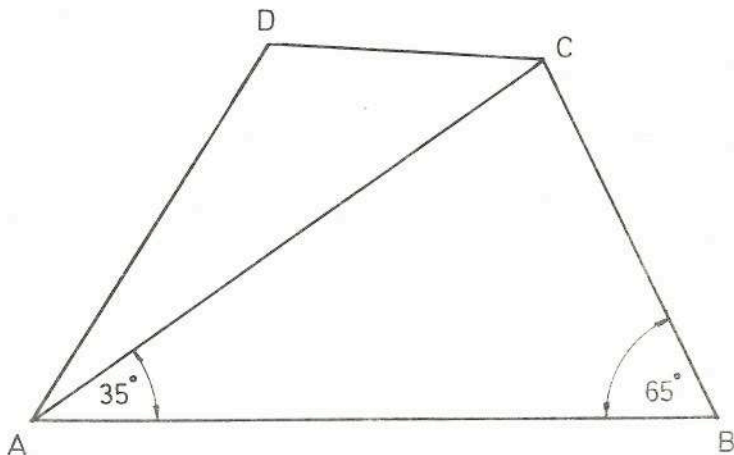

Fig. 7
7. In Fig. 7 the perimeter of the triangle ABC is 350 mm and the sides of the triangle ACD are in the ratio 3 : 5 : 7.